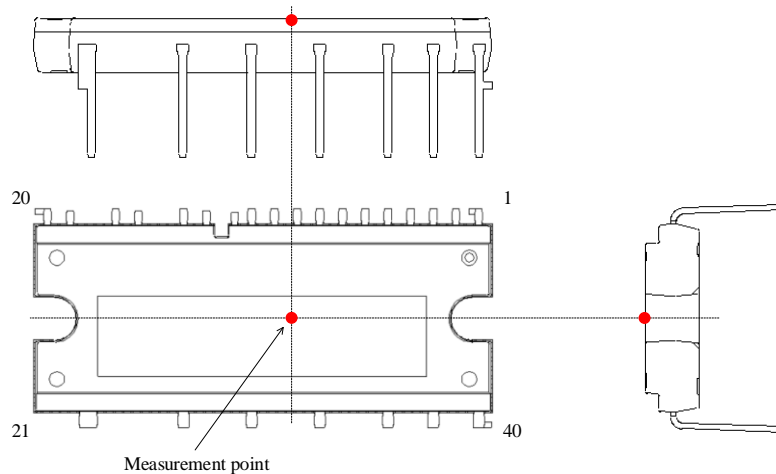

Figure 3-1. Case Temperature Measurement Point
- (2) Refers to a case temperature at the measurement point described in Figure 3-1, below.